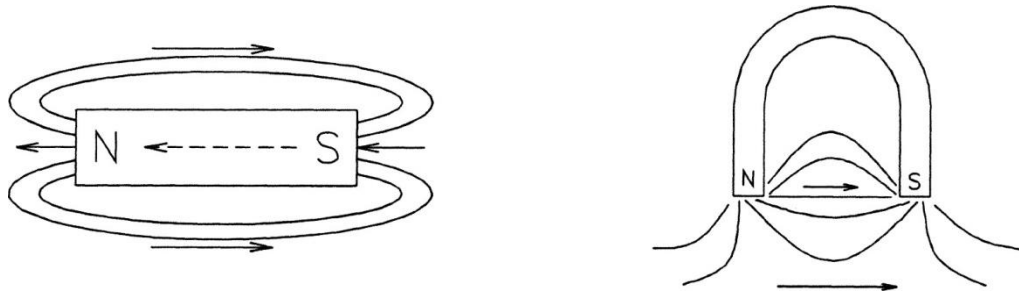

Figure 1. Bar and Horseshoe Magnet
3. All magnets are surrounded by a magnetic flux or field; this flux is usually said to consist of imaginary lines of force between the two extremities of the magnet. The extremities are known as the north pole and the south pole. Magnetic flux lines cannot be seen, but their effect can be seen if iron filings are sprinkled over a magnet. The magnetic flux or lines of force are shown below (Figure 1) for both a bar magnet and a horseshoe magnet.